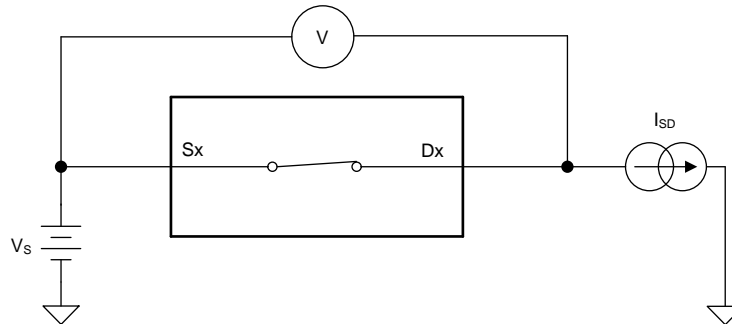

Figure 16. On-Resistance measurement setup
The on-resistance of a device is the ohmic resistance between the source (Sx) and drain (Dx) pins of the device. The on-resistance varies with input voltage and supply voltage. The symbol R_{ON} is used to denote on-resistance. The measurement setup used to measure R_{ON} is shown in Figure 16. Voltage (V) and current (I_{SD}) are measured using this setup, and R_{ON} is computed with $R_{ON} = V / I_{SD}$: